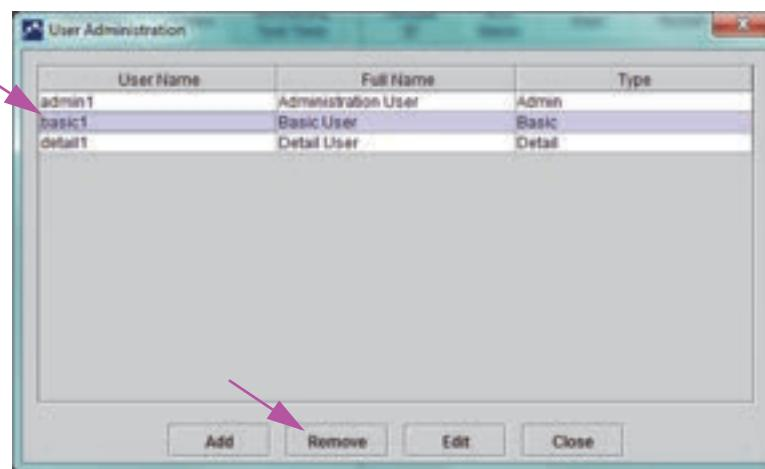

Figure 2-75. User Administration Dialog Box selecting User to be Removed
2. Click to select the user to be removed. See Figure 2-75.
4. To remove additional users, repeat Step 2 and Step 3. If you are done removing users, click **Close** (see Figure 2-75).